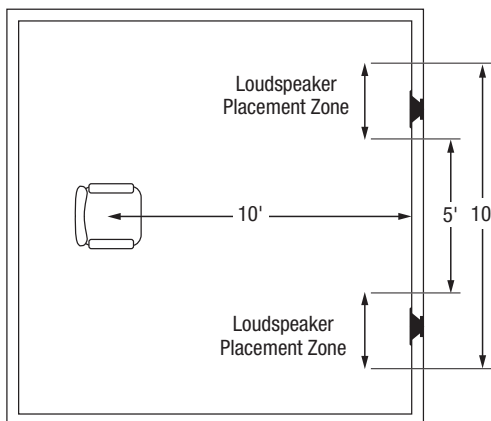

Figure 1. Recommended HDLCR_{BX} loudspeaker placement for front left and right channels.
- *In home theater applications where there is a center channel, you may choose to space the left and right main loudspeakers farther apart for a “bigger than life” sound with Dolby® encoded movies and TV shows. However, for combined music and movie usage, we recommend using the placement zone for stereo music. Ideally, if the listening position is 10 feet back from the wall, place the loudspeakers between 5 and 10 feet apart, as shown in **Figure 1**.*